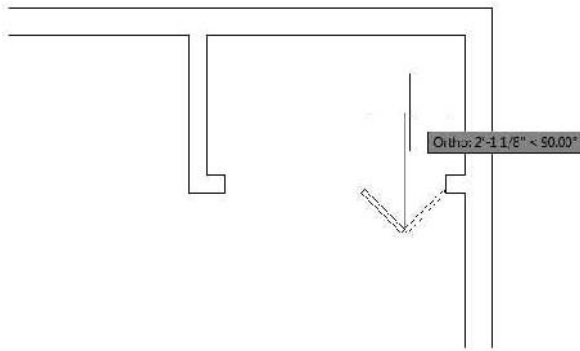

FIGURE 4.75: Mirroring the first closet door panel
11. Move the cursor either up or down until you see the mirror door panel directly to the left of the first panel (see Figure 4.75); then click to specify the second point of the mirror line.